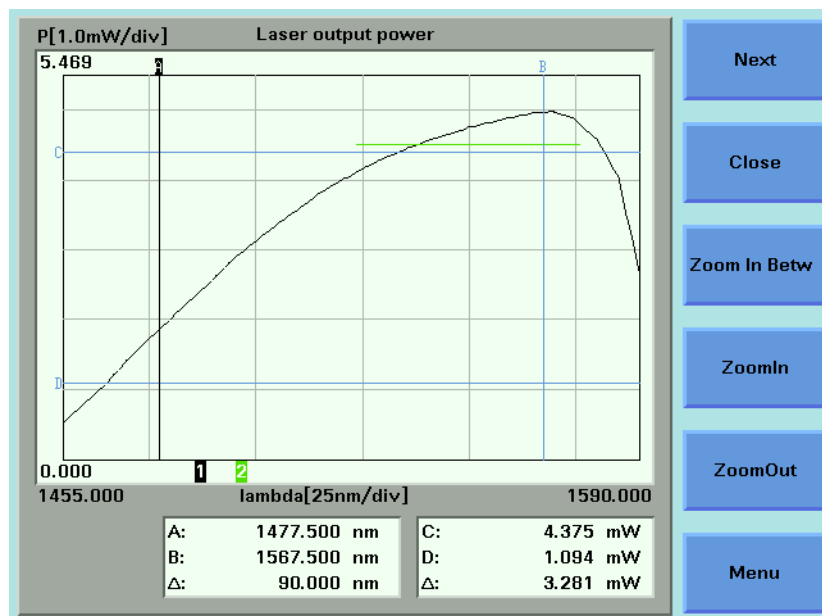

Figure 173 The Pmax Curve Screen
- 2 Move to *<Pmax curve>* and press *Enter*. The Pmax Curve Screen, as shown in Figure 173 , appears.